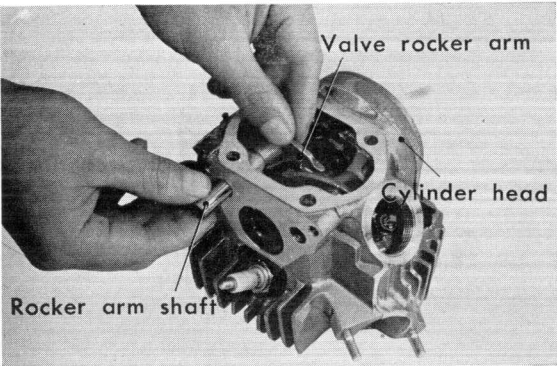

Figure 3-58. Removing the valve rocker arm
- (1) Remove the cylinder head in accordance with section 3.21a.
- (2) The rocker arm is disassembled from the cylinder head by pulling out the rocker arm shaft. (Fig. 3-58)